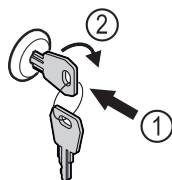

Fig. 143
- ▶ Insert key Fig. 143 (1).
- ▶ Turn key clockwise by 90° Fig. 143 (2).